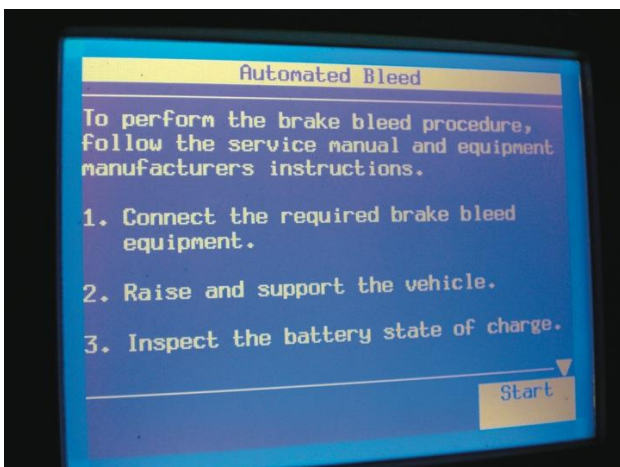

Figure 8. Scroll through the menus and select automated bleed procedure and follow the on-screen instructions.
Step 5 Select ABS automated bleed from the ABS menu. The instructions on the scan tool could include several steps including manually bleeding the system, then allowing the scan tool to cycle the hydraulic ABS solenoid valves and then bleeding again. Figure 8.